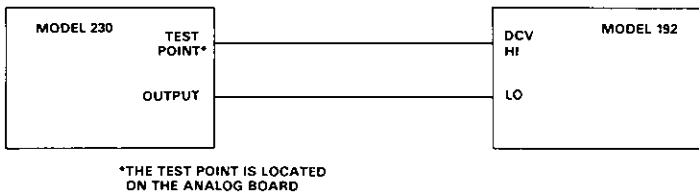

Figure 5-1. Zero Span
1. Set up the test circuit shown in Figure 5-1.